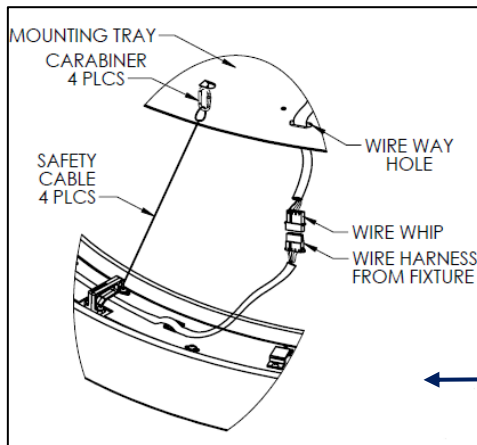
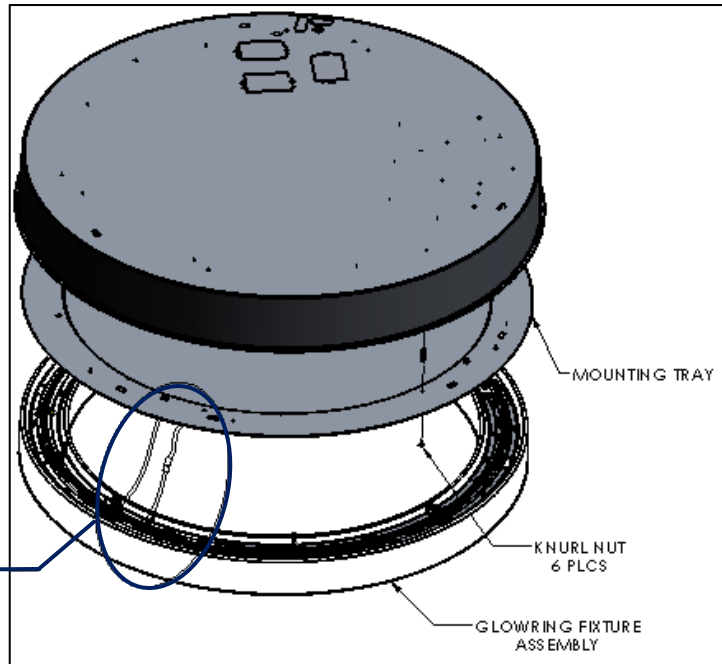
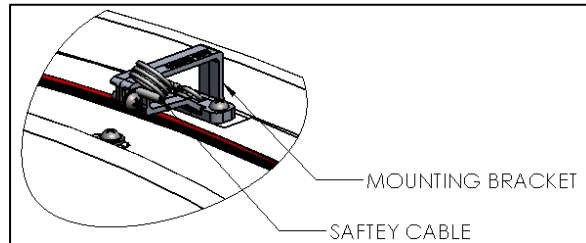

FIG. 12 – DETAIL SHOWING SAFETY CABLE
FIG. 13 – MOUNTING TRAY INSTALLATION
FIG. 14 – SAFETY CABLE INSTALLATION WITH BRACKET
1. Raise MOUNTING TRAY and route WIRE HARNESS through slotted WIRE WAY HOLE on MOUNTING TRAY as shown in FIG.12 Install MOUNTING TRAY re-using hardware as shown in FIG.13 (removed from step 2 of FIXTURE PREPARATION). Make sure all KNURL NUTS are securely fastened.
2. With multiple people, raise up GLOWRING FIXTURE ASSEMBLY and attach the provided SAFETY CABLES as shown in FIG.14 to the carabiners on MOUNTING TRAY. Be sure to orient GLOWRING ASSEMBLY so WIRE HARNESES align as shown in FIG.12.